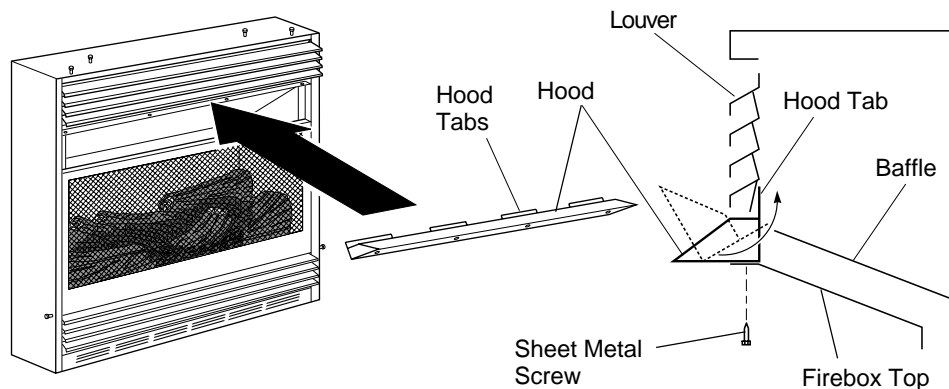

Figure 4 - Assembling Hood
2. Rotate hood as shown in Figure 4. Make sure hood tabs point toward firebox.
3. Insert hood tabs between baffle and louvers (see Figure 4).
4. Gently rotate hood to upright position. Make sure hood tabs are behind louvers and hood is resting on firebox top (see Figure 4).
6. Insert screws as shown in Figure 4. Tighten screws firmly.